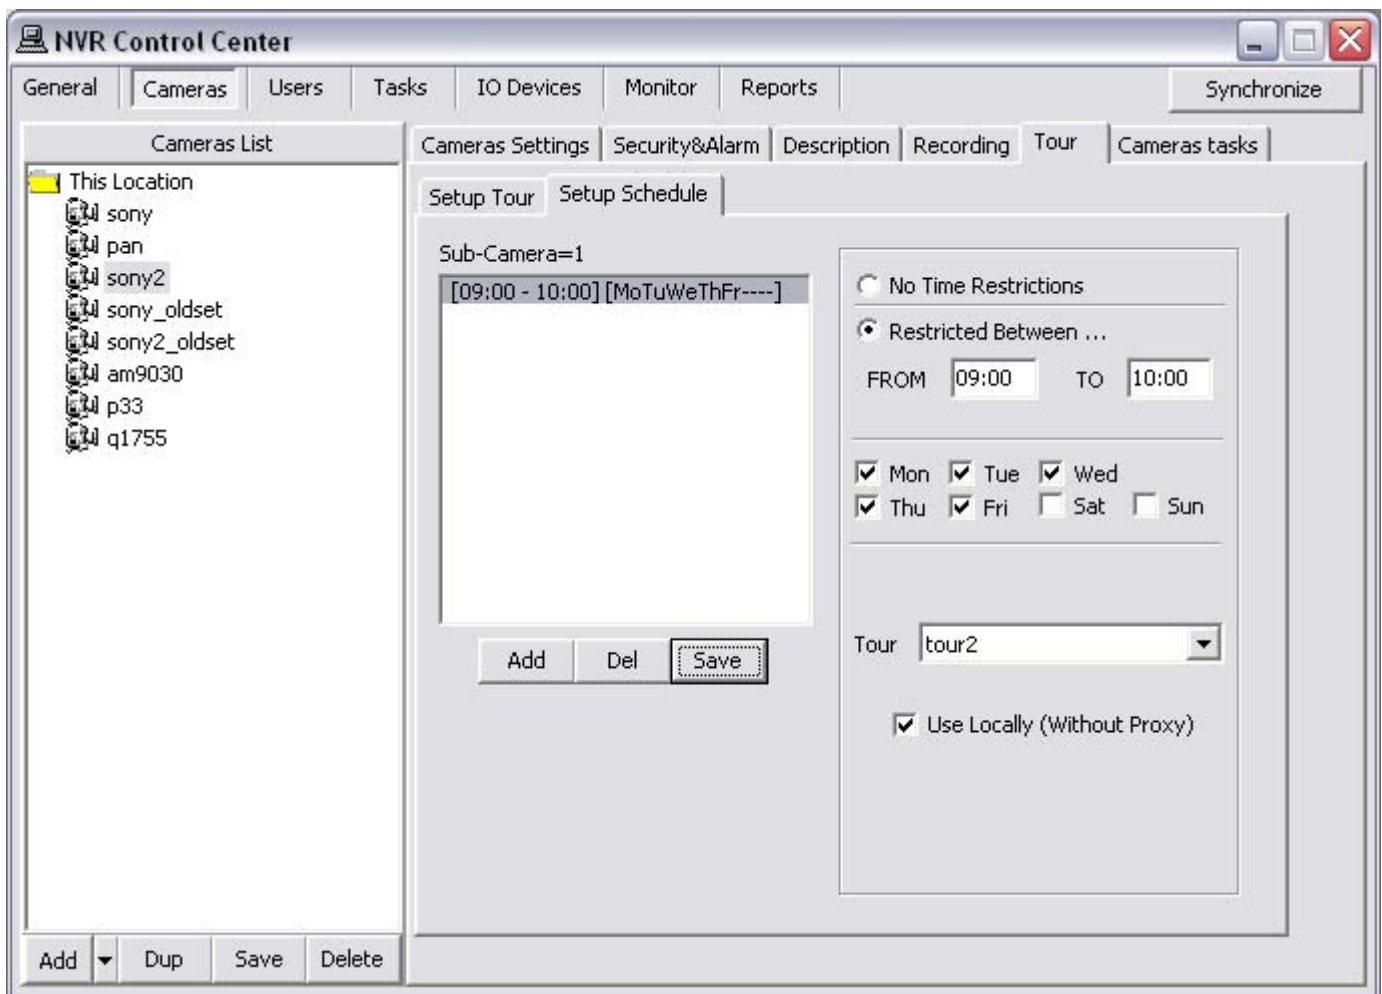

Fig 36. NVR Control Center — Cameras — Tour
1. In the **NVR Control Center — Cameras** select a PTZ camera from the **Cameras List** and switch to the **Tour — Setup Schedule** (Fig 36).